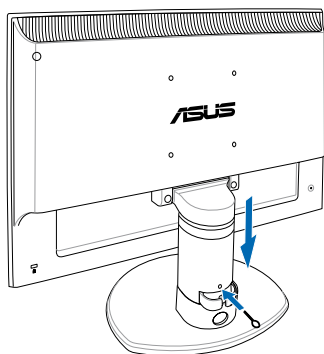

Figure 1
1. Lower the monitor to its lowest height, and then insert the monitor height adjustment lock (Figure 1).